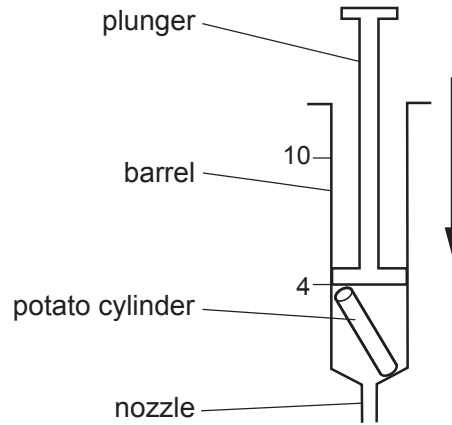

Fig. 1.2
4. Put the plunger back into the syringe and push it to the 4 cm³ mark, as shown in Fig. 1.2.